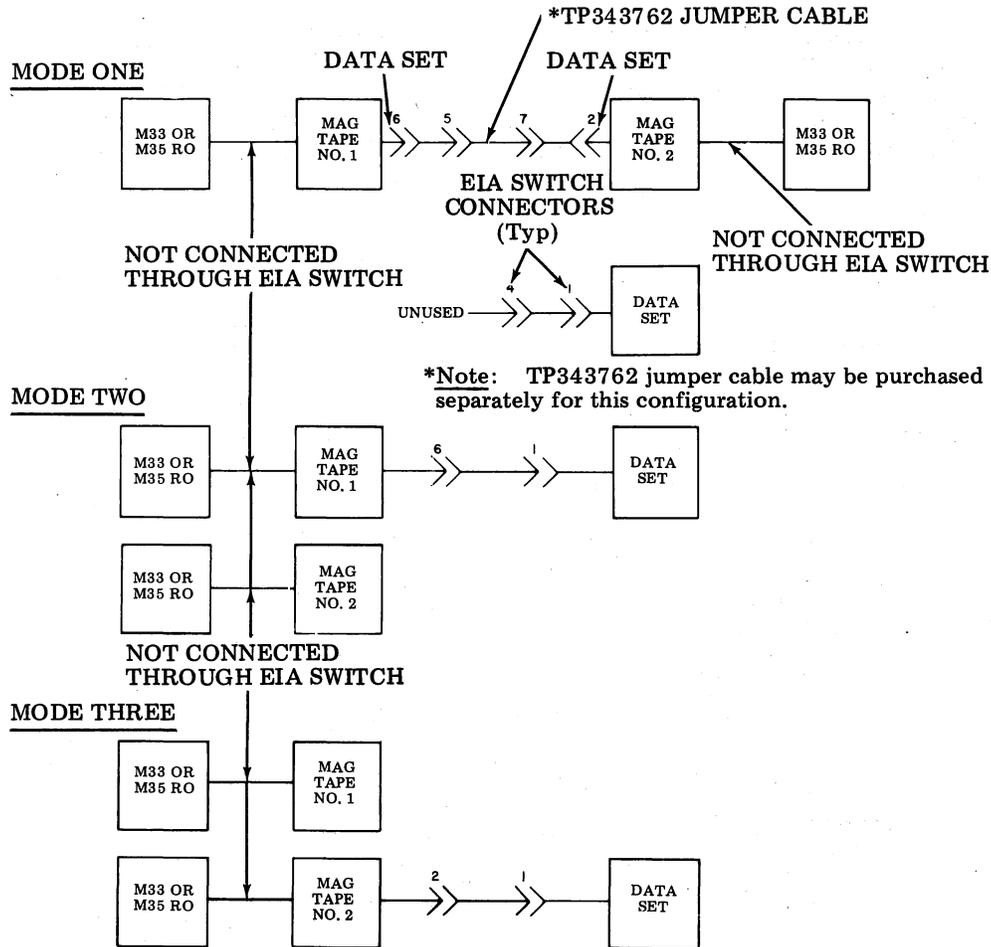

Fig. 12—Magnetic Tape Terminal and Model 33 or 35 RO Printers
6.13 With an optionally purchased TP343762 jumper cable connected to switch assembly connectors 5 and 7, the two MT terminals are connected back-to-back sharing one DS as shown in Fig. 12. A Model 33 or 35 RO is connected directly to the interface connector of each MT.